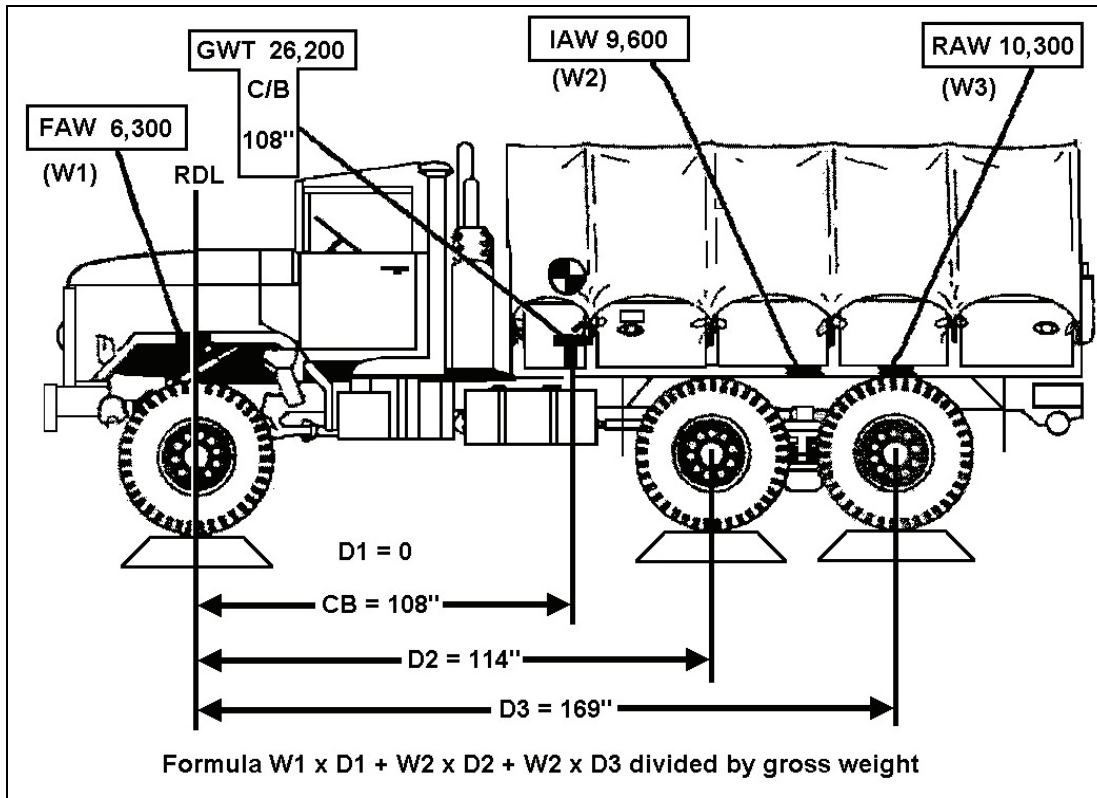

Figure 3-99. Computing Tandem Axles Separately With Separation that Exceeds 48 Inches
- b. For tandem axles with separation that exceeds 48 inches, compute axle distances separately (see Figure 3-99).